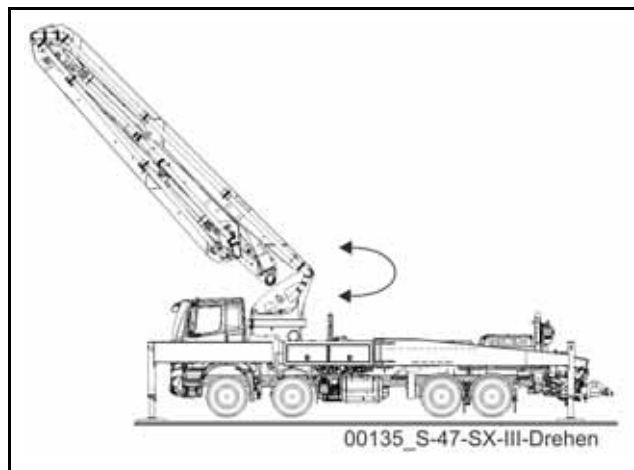

Fig. 276
- Rotate the boom package into the support position (Fig. 276)